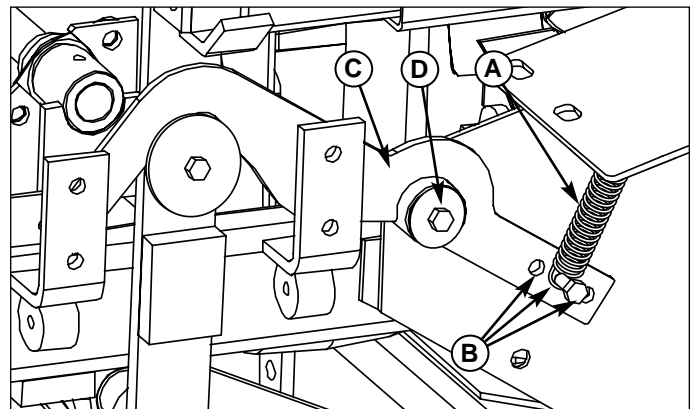

Figure 28. Neutral Spring Return Adjustment
2. Loosen the hardware fastening the arm to the pivot plate (D, Figure 28).
Each of the springs (A, Figure 28) has three adjustment holes (B, Figure 28). The closer the spring is located to the neutral return arm's pivot (D, Figure 28), the less spring force will be felt by the operator while driving and will return to neutral slower.
The farther the spring is located from the neutral return arm's pivot (D, Figure 28), the more spring force will be felt by the operator while driving and will return to neutral faster.